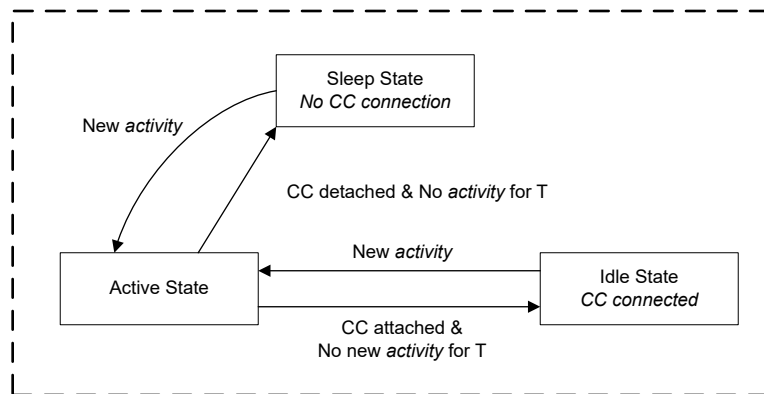

Figure 8-35. Flow Diagram For Power States
The TPS26744E-Q1 may operate in one of four different power states: Active, Idle, Sleep or Shutdown. The functionality available in each state is summarized in the following table. The device automatically transitions between the power states based on the circuits that are active and required, see Figure 8-35. In the Sleep State the TPS26744E-Q1 detects a Type-C connection or other activity that requires moving to the Active state. Transitioning between the Active mode to the Idle mode requires a period of time (T) without any of the following activity: